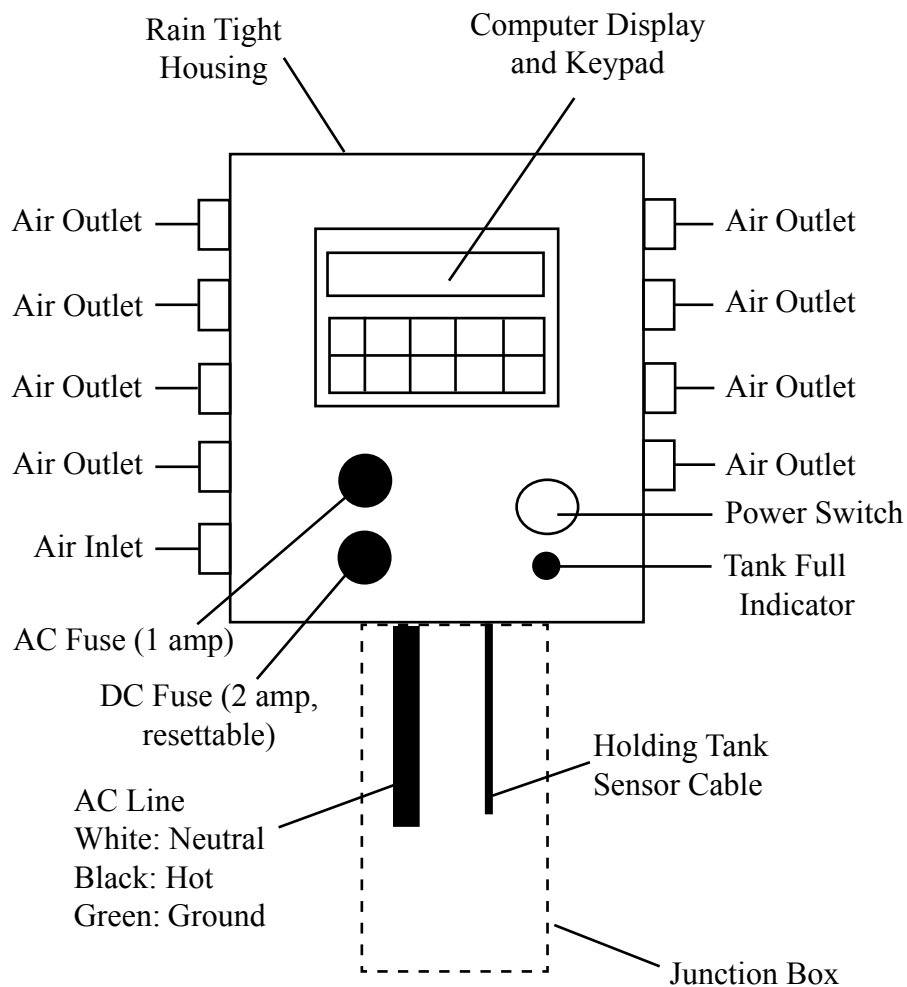

Figure 3
STEP 1. Mount programmable Controller Model 5500ES (Figure 3) in a vertical position near the air source, power source, and holding tank, if possible. **CAUTION:** The Model 5500ES is NOT intrinsically safe. If this controller must operate in a CLASS I area, use the XITECH Model 2550ES CLASS I Controller instead. Air supply needs to be free of WATER and OIL to have minimum maintenance.
STEP 2. Install holding tank shutoff assembly into holding tank ( a 2” standard pipe inlet will be required in the holding tank). The level of product in the holding tank can be set by raising or lowering the liquid level sensor attached to the rod. Wire the sensor cable into the controller (Figure 3). **NOTE:** If additional signal cable is needed to position the holding tank assembly further away from the controller, use 18 gauge 2-conductor wire.
STEP 3. Attach power line from the AC Line to the controller (Figure 3). Turn on the controller power switch. If the red “Product Tank Full” light stays on, you have a problem with tank shutoff wiring. Turn off the power switch and re-check the tank shutoff wiring. If the light continues to stay on, call the factory.